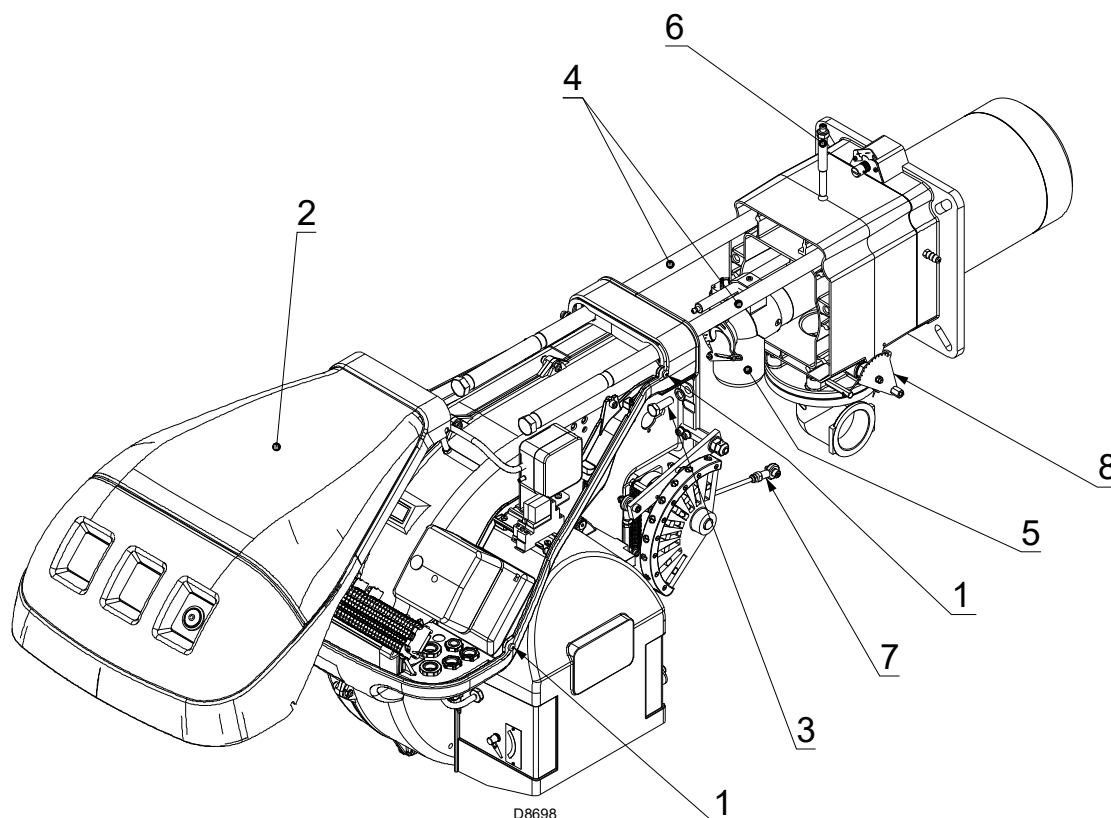

Fig. 39
- Loosen the screws 1)(Fig. 39) and remove the hood 2)(Fig. 39).
- Disengage the articulated coupling 7) from the graduated sector 8)(Fig. 39).
At this point it is possible to extract the inner part 5) after having removed the screw 6)(Fig. 39).
- Replace the screws 3)(Fig. 39) and carefully pull the probe and electrode cables outwards until they are slightly taut.
- Re-couple the articulated coupling 7) to the graduated sector 8)(Fig. 39).
- Disassemble the two extensions from the guides 4)(Fig. 39).